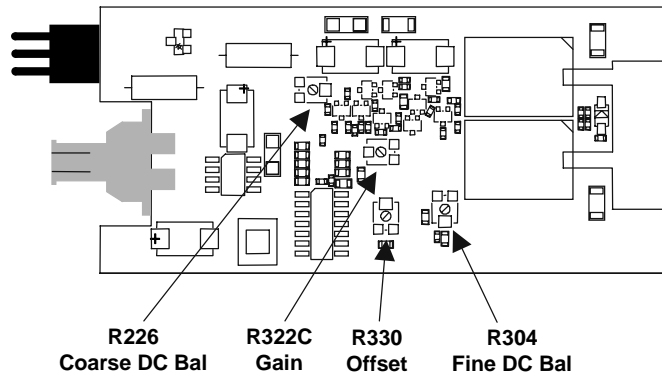

Figure 10. Amplifier Board Adjustment Locations
5. Using a low capacitance screwdriver, adjust **Coarse DC Bal** (R226) on the Amplifier Board for an output voltage of 0 mV  $\pm$ 10 mV (Figure 10).
12. Using a low capacitance screwdriver, adjust **Offset** (R330) to bring the trace back to exactly center screen. (See Figure 10 for adjustment location.)
9. Using a low capacitance screwdriver, adjust **GAIN** (R322C) so that the DMM reading is within  $\pm 1$  mV (0.5%) of the reading recorded in step E-6. (See Figure 10 for adjustment location.)
5. Adjust **Attenuator CMRR** (capacitor C18A) for minimum amplitude shift of the displayed waveform at the trigger point in time. See Figure 10 for adjustment location.